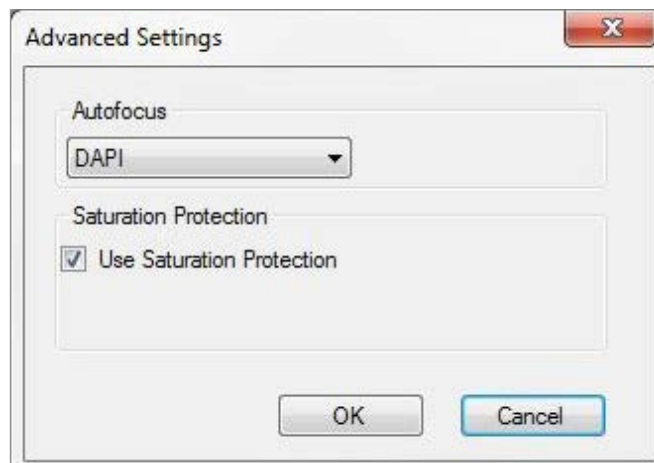

Figure 6. The Exposure Correction box in Vectra enables saturation protection and should always be checked for acquisition of Opal images.
- Always enable saturation protection by checking the Exposure Correction box (Figure 6). This protects against unexpectedly bright signals by reducing exposure when necessary. InForm adjusts for differences in exposure times at each wavelength in unmixing, ensuring that results may be compared between samples.